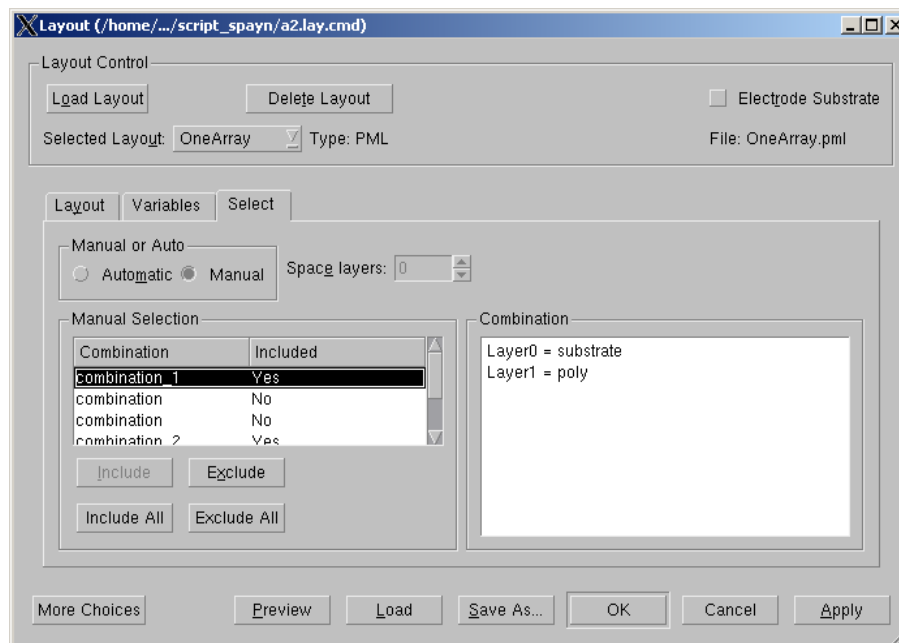

Figure 10.
- Which process layers are assigned to which layout layers is performed via the combination selection in the layout GUI (Figure 10)